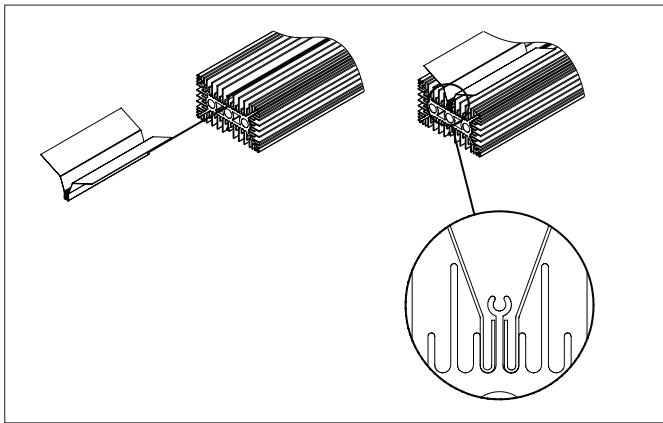

Figure 1 – Reflector Baffles Installation
1. REFLECTOR BAFFLES (T2D units only). Refer to Figure 1, page 4 when installing reflector baffles.